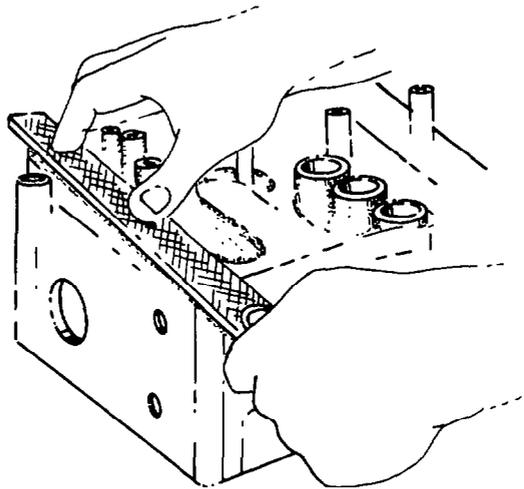

Fig. 7 — De-burring Head Surface
- a. De-burr the head to be sure that it lies flat during the machining process (see fig. 7).